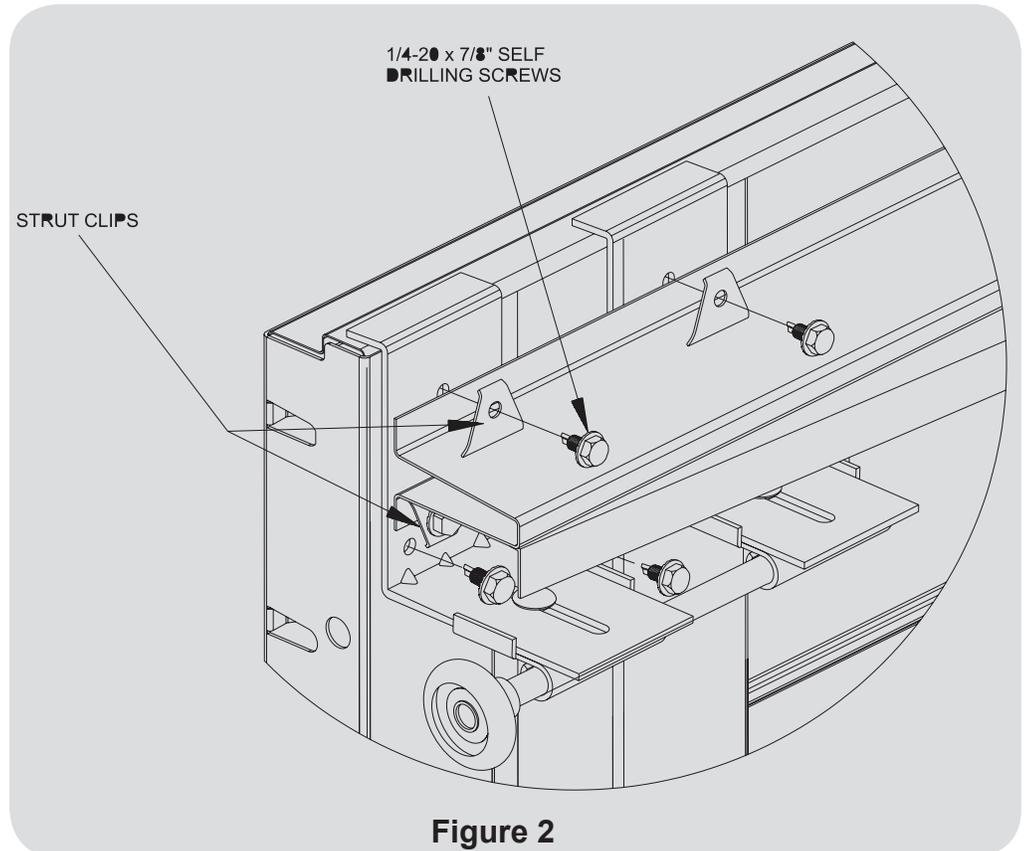

Figure 2
Secure each top bracket using (4) 1/4" self-drilling screws. Use (2) strut clips to secure U-bar. (see **Figure 2**)
NOTE: Double end stile application shown in **Figure 2**. Double end stiles are not typically provided for smaller doors.